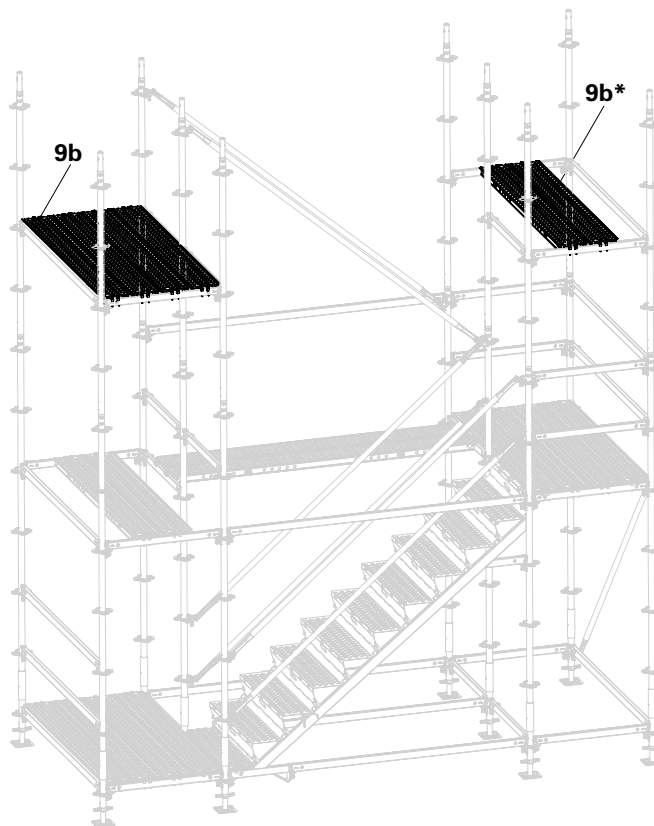

Fig. A3.02
1. Insert Steel Decks UDG 200 (landing platform 9b). (Fig. A3.02)
2. Insert Steel Decks UDG (assembly aid 9b*). (Fig. A3.02)